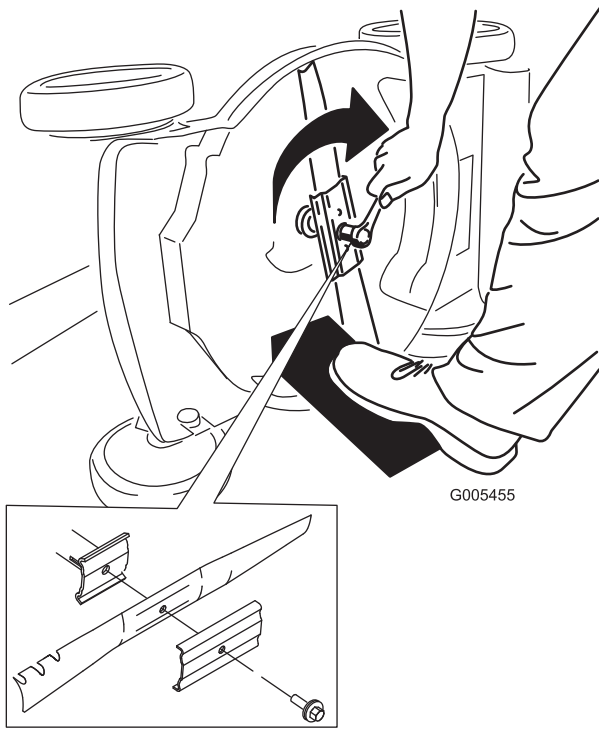

Figure 29
- Install the new blade and all mounting hardware (Figure 29).